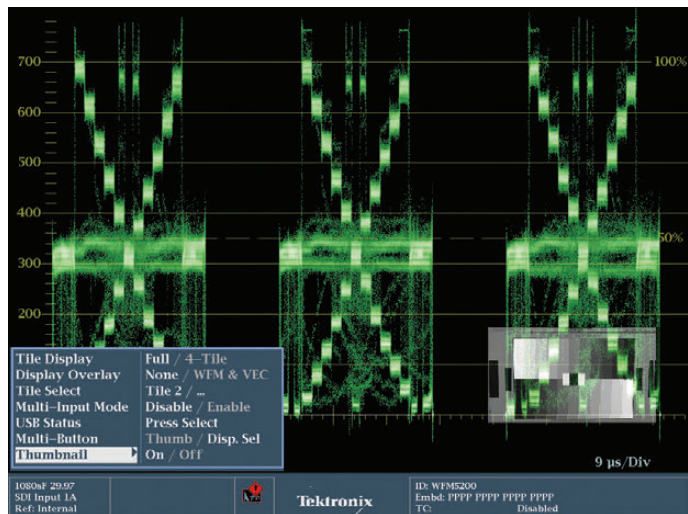

Figure 6-13. If there is a small thumbnail on the waveform display, pressing the MAIN button will call up a menu to turn off the thumbnail image.
5. If the full frame waveform monitor has a small thumbnail image of the Picture monitor in the bottom right corner, press the MAIN button and navigate to the Thumbnail option and toggle it off (Figure 6-13).